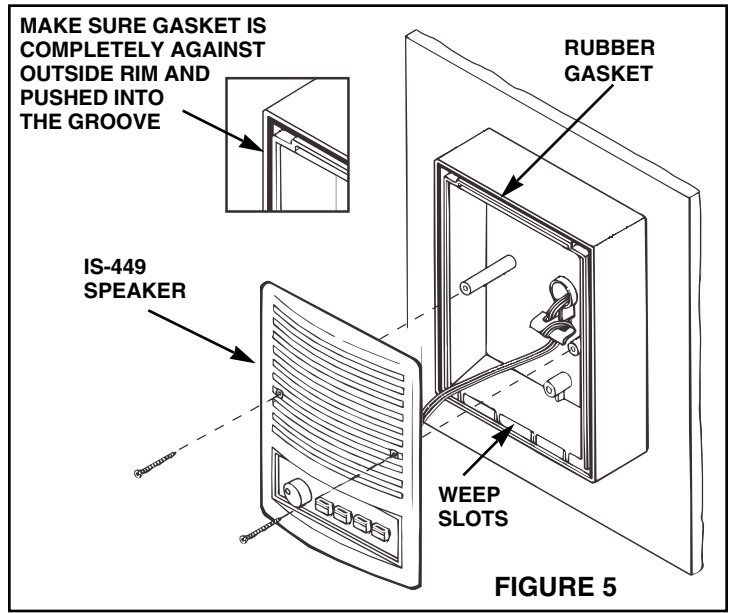

FIGURE 5
1. Refer to Figure 5. Carefully place excess wire into mounting frame.
4. Secure speaker to frame with two (2) N° 8 x 2" mounting screws (furnished).